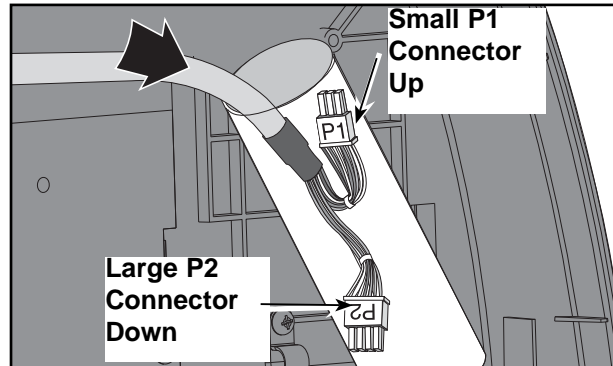

Figure 28
- B. Locate the P1 and P2 end of the display cable. See Figure 28.
- C. Push the P2 connector down into the top handrail hole with the P1 connector pointing up. See Figure 28.